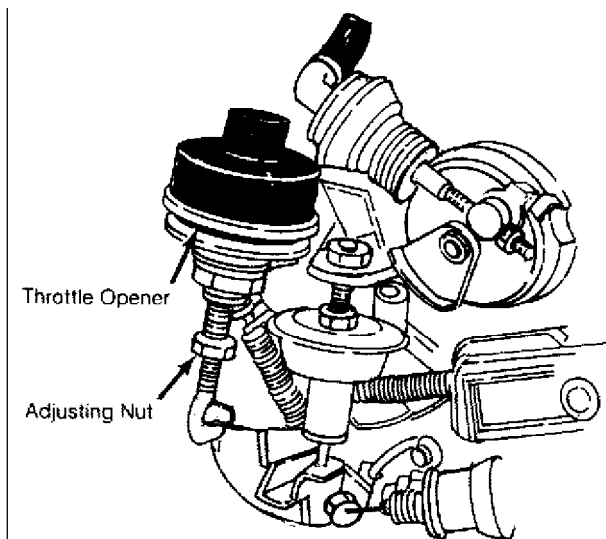

Fig. 7: Throttle Opener Adjustment (A/C Models Only)
4) Throttle opener should operate and engine speed should increase to 1150-1250 RPM in Neutral. If engine speed is not to specification, turn adjusting nut shown in Fig. 7.